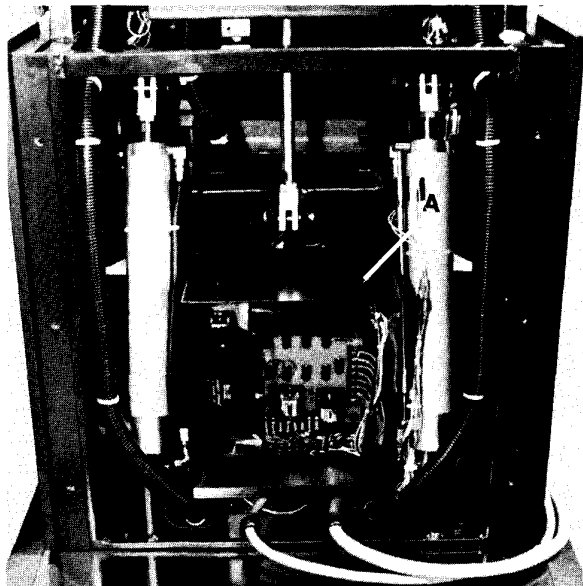

Fig. 15
- 2) Remove control enclosure outer shroud by removing (2) screws, Item A, Fig. 15 and sliding shroud up and out.
- 5) Replace control enclosure outer shroud by placing shroud in position, aligning holes, and installing (2) #6x $\frac{3}{8}$ " screws, Item A, Fig. 15.